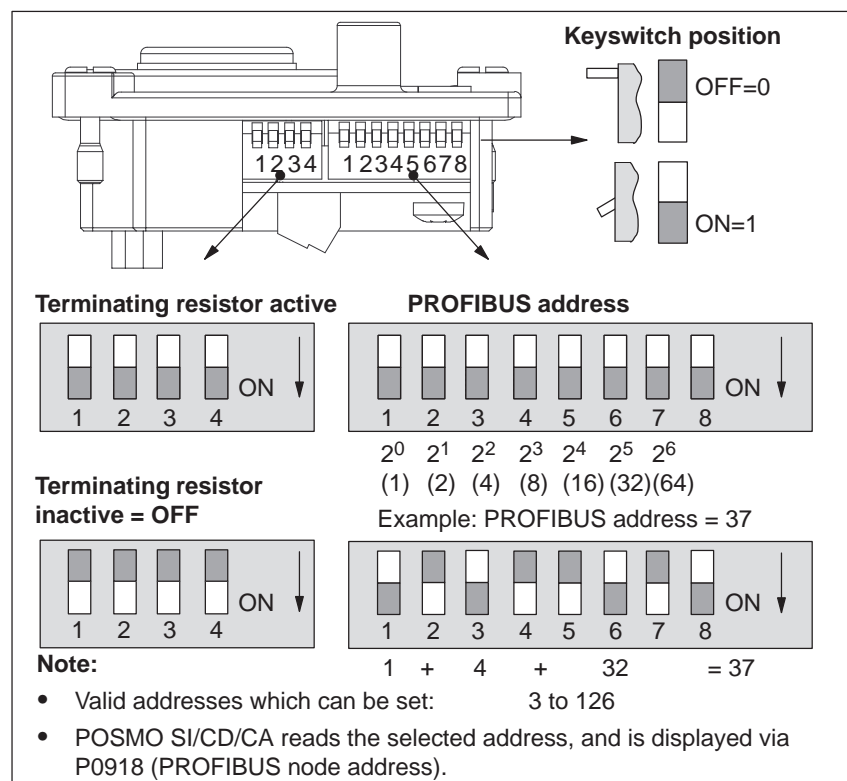

Fig. 2-34 Set the PROFIBUS address and terminating resistor
- The PROFIBUS terminating resistor for this "DP slave POSMO SI/CD/CA" must be switched-out using switches S1-S4 (refer to Fig. 2-34).
- > The bus termination should be switched-in using DIL switches S1-S4 (refer to Fig. 2-34).
- > The bus termination must be switched-out using switches S1-S4 (refer to Fig. 2-34).